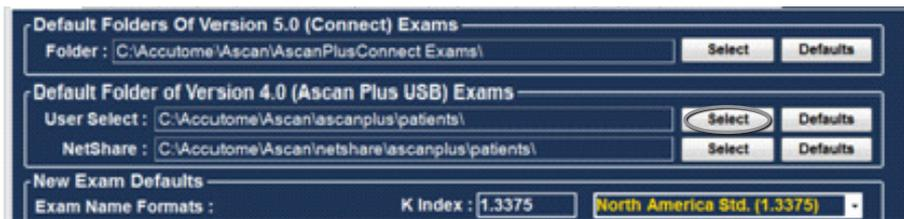

Figure 5.9 - User Select, Default Folder of Version 4.0
1. Click on select as shown below in Figure 5.9.